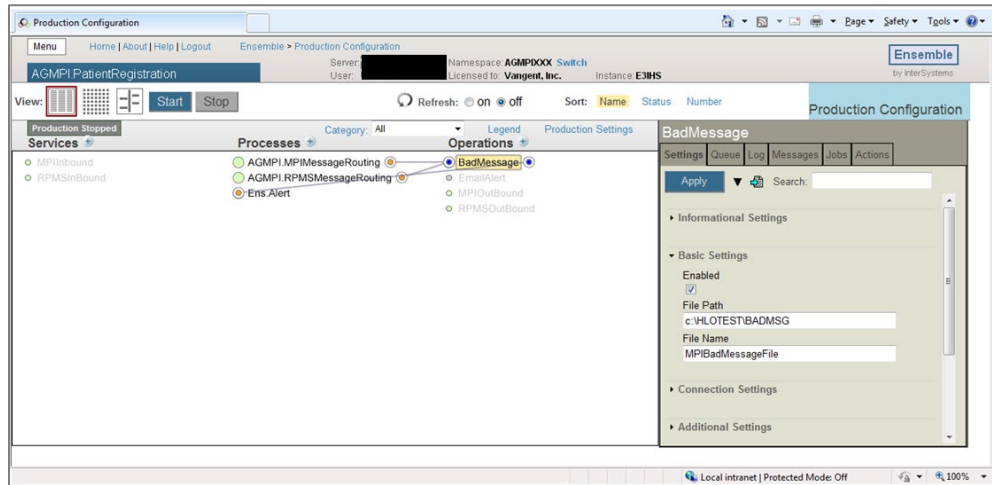

Figure 5-27: **BadMessage** configuration
1. Click **BadMessage** on the **Production Configuration** page to display the BadMessage configuration, as shown in Figure 5-27.